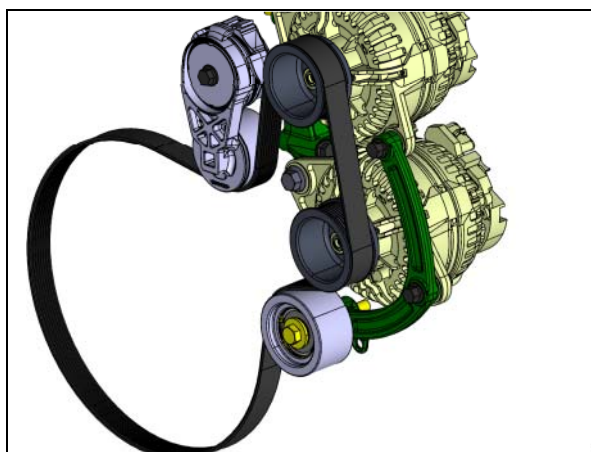

FIGURE 25
13. Install the alternator belt (FIGURE 25)